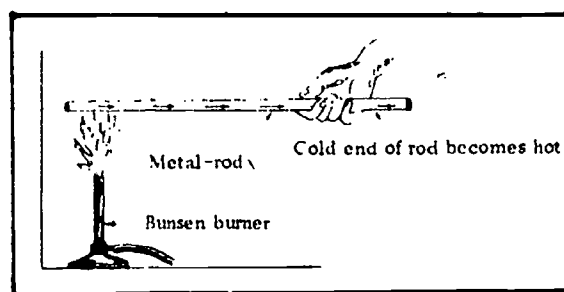

Fig 1-2. Heat transfer by conduction.
- (5) Heat transfer. Heat can be transferred from an object of higher temperature to one of a lower temperature. The transfer of heat will take place until both objects reach the same temperature. There are three methods of transferring heat: conduction, convection, and radiation.
- (a) Conduction (fig 1-2). Conduction of heat is accomplished by transmitting heat from one part of an object to another part of the same object or from one substance to another when the substances are in direct contact. This can be seen in figure 1-2. By placing one end of the metal rod in the flame, it will become warmer than the other end. The heat will flow along the rod raising the temperature of the cold end. Metals, such as iron, copper, or silver, are good conductors of heat; other materials, such as glass and cork, are not. Materials that offer a low resistance to the flow of heat are called conductors; those that offer a high resistance to heat flow are referred to as insulators. Conduction is aided by providing large surfaces of good heat-conductors.